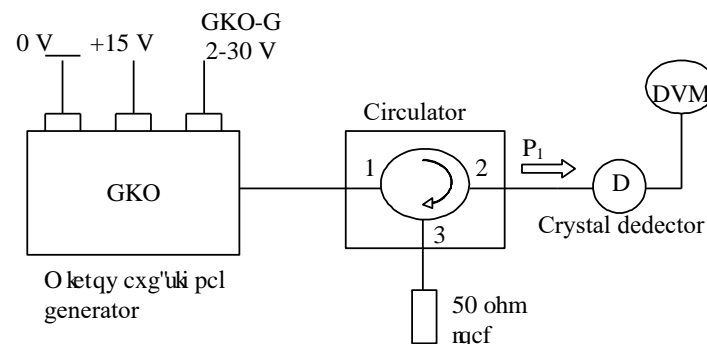

Figure 4: Measurement of the microwave source's output power (P_1).
1.1 Set up the experimental apparatus as shown in Figure 4.